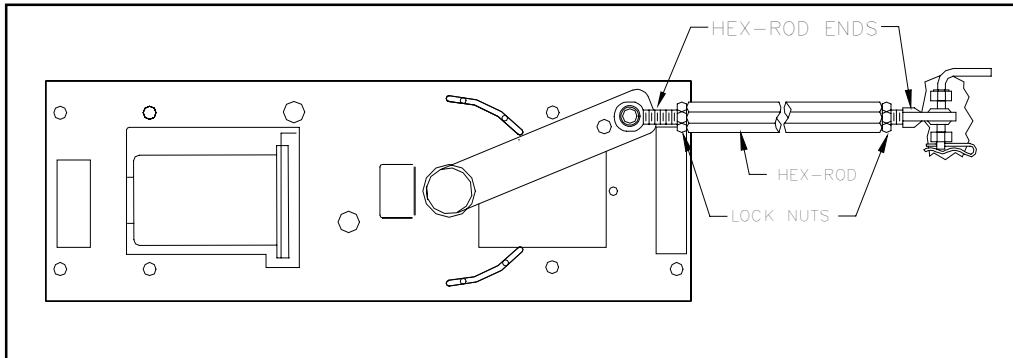

FIGURE 2-4: HEX ROD ADJUSTMENT (LEFT REAR DOOR SHOWN; RIGHT DOOR OPPOSITE)
8. Refer to **Figure 2-4**. Adjust the length of the hex-rod assembly as required until the left door closes tightly. To adjust, loosen locknuts at ends of hex-rod, rotate the hex-rod, and then retighten the locknuts.